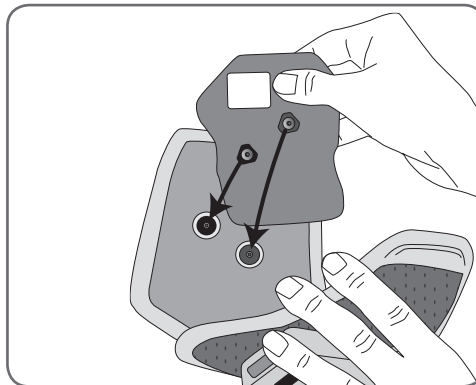

Figure 8-6: Aligning the large cloth electrode.
4. Align the orange and blue snaps on the large cloth electrode with the orange and blue plug holes on the L300 FS Cuff. See Figure 8-6.